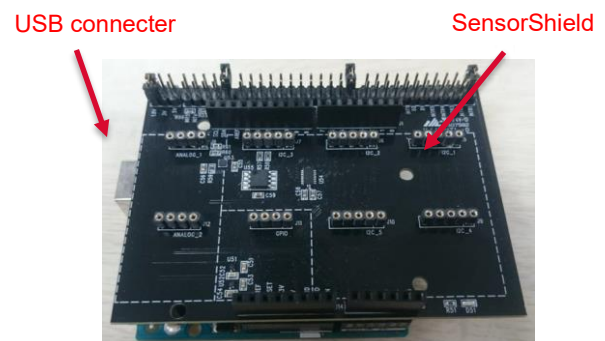

Figure 3. Connection between the Arduino and the SensorShield
1. Connect the SensorShield to the Arduino (Figure 3)